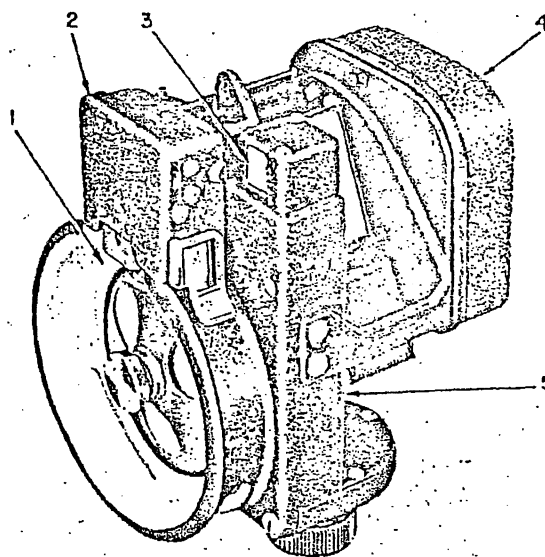

Figure 3—Front View
KEY TO FIGURE 3
d. ELECTRICAL SYSTEM. (See figure 3.)—The electrical system consists of a power source comprising a pocket battery case which connects by a cable to the sextant. An electrically powered timer mechanism operates contacts which close the circuit to a relay located in the timer assembly (4); which in turn closes the circuit to a solenoid which operates the automatic marker assembly (2). The bubble light rheostat controls the illumination of the bubble cell, and the toggle switch controls the illumination of the marking disc (1) and counter (3).
e. FRAME ASSEMBLY.—The frame assembly (5, figure 3) is a permanent-mold, aluminum-alloy casting to which are attached the major assemblies of the sextant.
j. COUNTER ASSEMBLY.—The counter assembly (3, figure 3) is driven by the worm assembly and indicates on its dial angular positions in degrees and minutes.
electric clock mechanism located in the timer assembly, (4, figure 3) which rotates a star wheel, the points of which, upon touching a contact, close the circuit to the relay assembly. The mechanism is regulated to transmit impulses at the rate of one per second.
u. RELAY ASSEMBLY.—The relay assembly located in the timer assembly, (4, figure 3) receives the impulses from the timer and closes the circuit to the marker assembly.
v. MARKER ASSEMBLY.—The marker assembly (2, figure 3) consists of the solenoid assembly and marking mechanism which makes a pencil mark on the marking disc, each time the impulse is transmitted from the relay assembly.